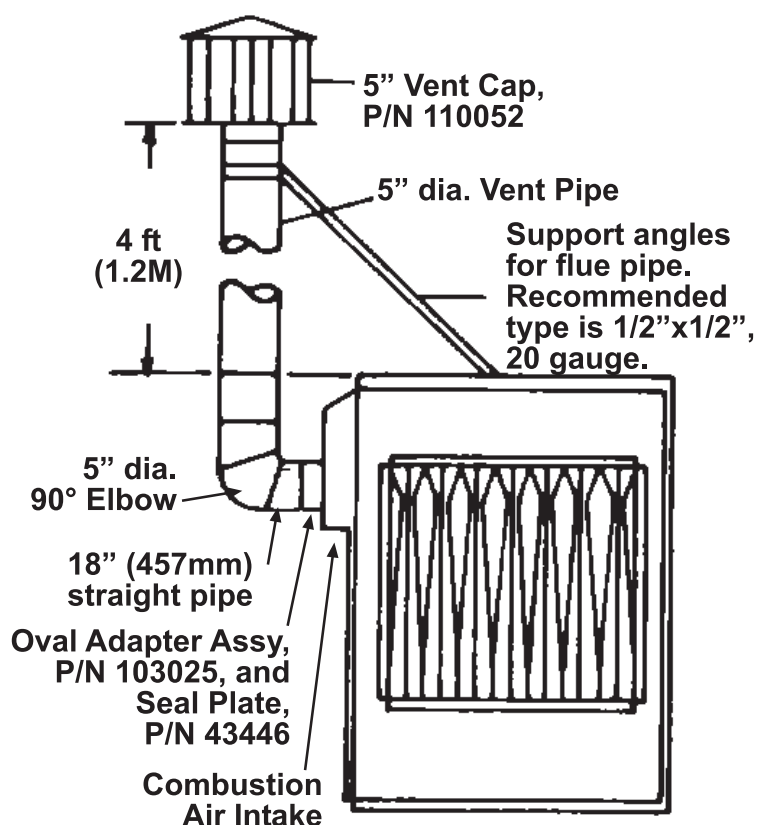

Figure 13. Vertical Vent Kit
- The vertical vent kit (PN 45021), which is the same as option CC3, is shown in Figure 13.